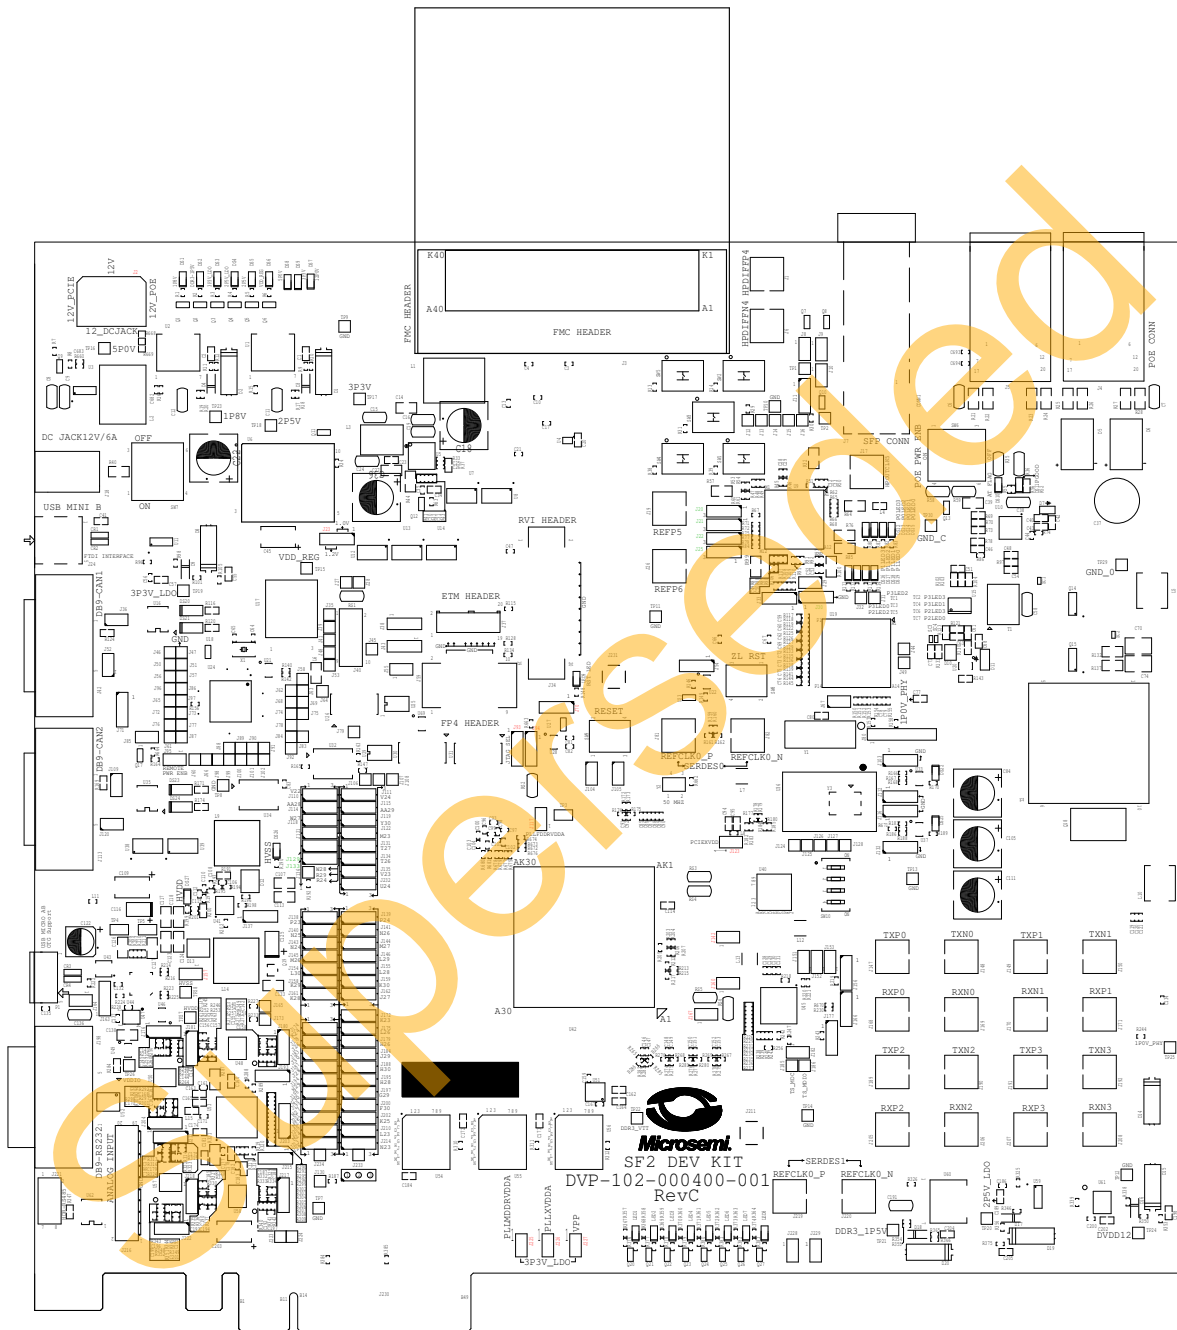

Figure 19 • SmartFusion2 Development Kit Silkscreen Top View
Figure 19 shows the jumper locations in the SmartFusion2 Development Kit Board.
- The location of the jumpers in Figure 19 are searchable.